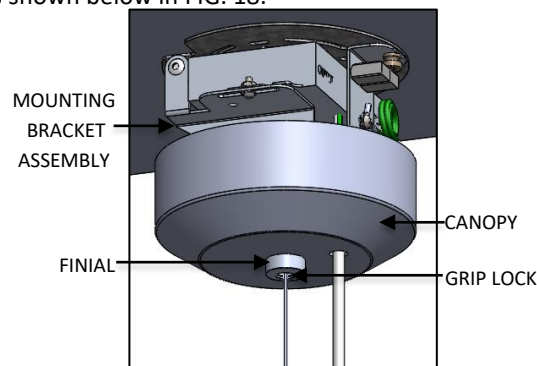

FIG. 18 – FINIAL INSTALLATION
10. Raise CANOPY and secure to ceiling by threading the FINIAL to the NIPPLE (available in MOUNTING BRACKET ASSEMBLY) as shown below in FIG. 18.